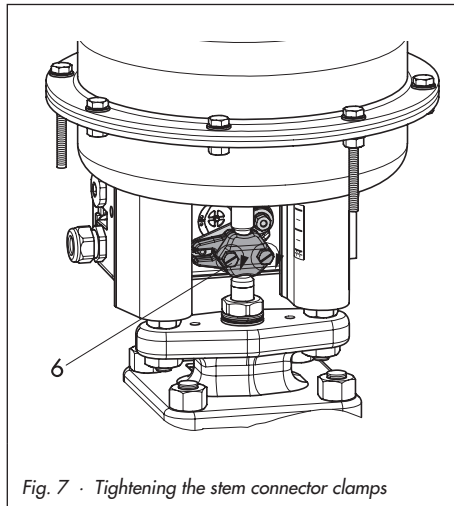

Fig. 7 · Tightening the stem connector clamps
- Tighten the screws (6 in Fig. 7) of the stem connector evenly.